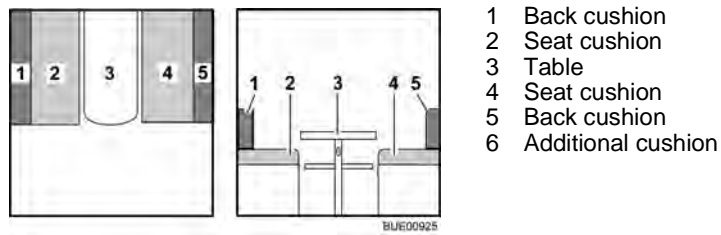

Fig. 77 Prior to conversion
- Convert the table (Fig. 77,3) to a bed foundation (see section 6.11).